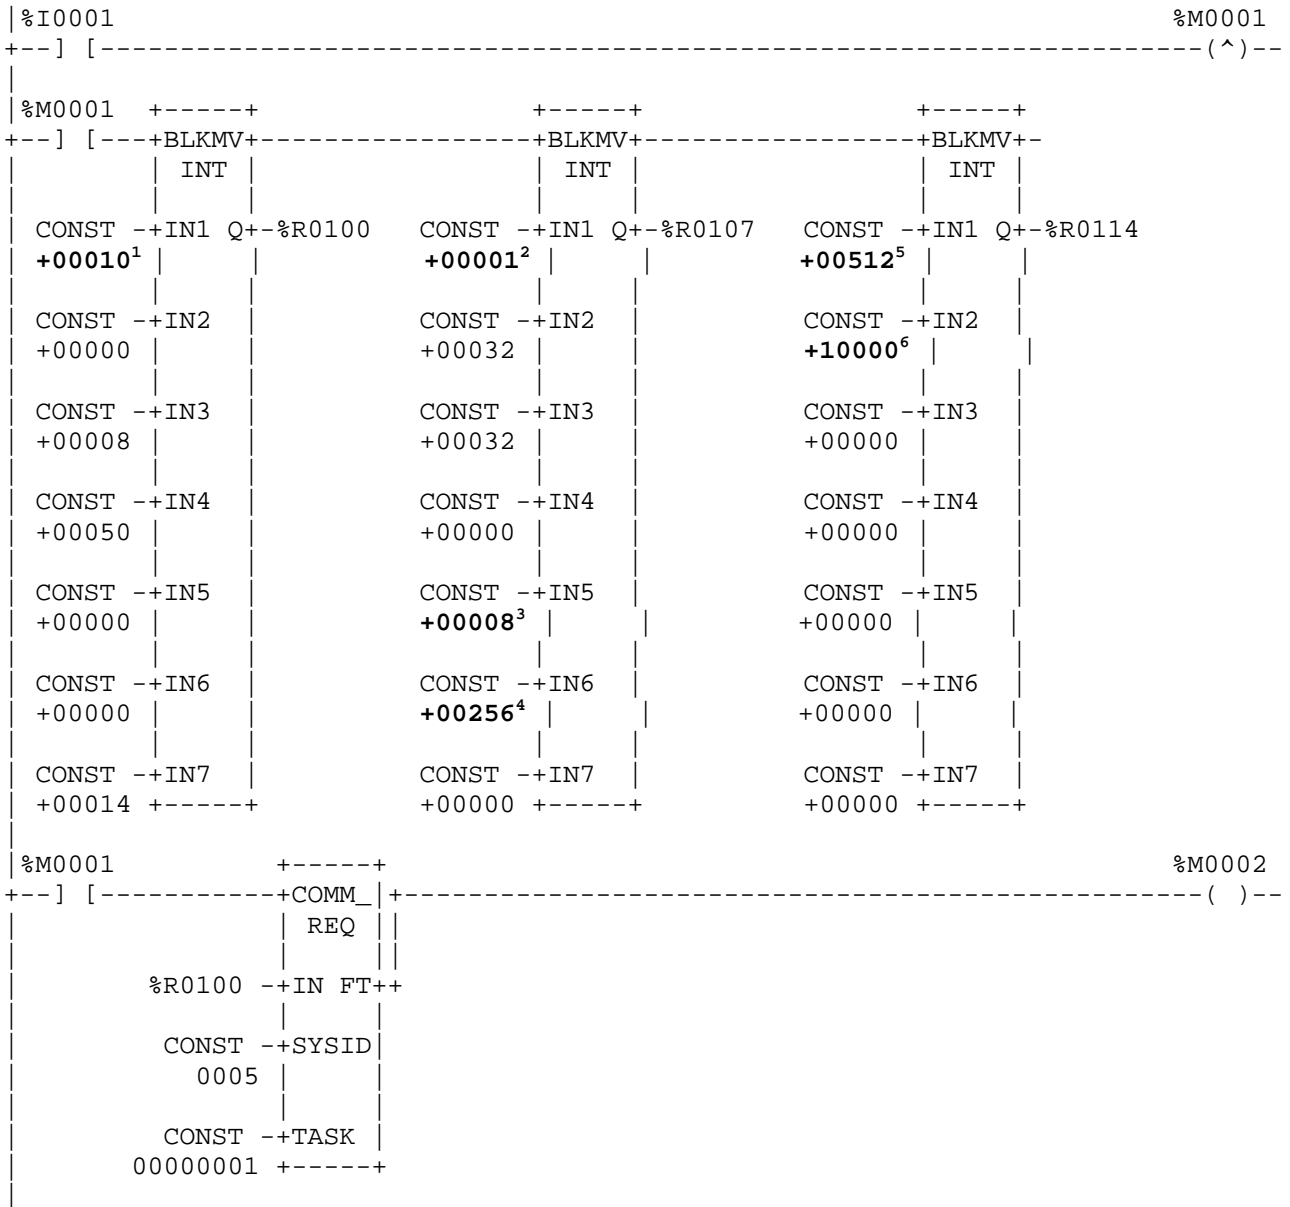

Figure 6.1 – Ladder Example #1 (Write to Drive)
The Send Datagram COMM\_REQ (14) is used to send a Write Device datagram. The Write Device datagram is used to write from the PLC to parameters in the drive. The COMM\_REQ allows multiple sequential parameters to be written. A starting parameter number is supplied, the number of parameters and the values of the parameters. The following is an example of a Write Device datagram to set the drive speed to 30.00Hz (Figure 6.1).
The starting address for the COMM\_REQ is the first word in the first block move at %R100. Table 6.1 provides an explanation of the values in the example (Figure 6.1) that are either specific to the drive or change depending on the COMM\_REQ values. The values in the example are bold and are noted by superscript numbers that correlate to the numbers in Table 6.1